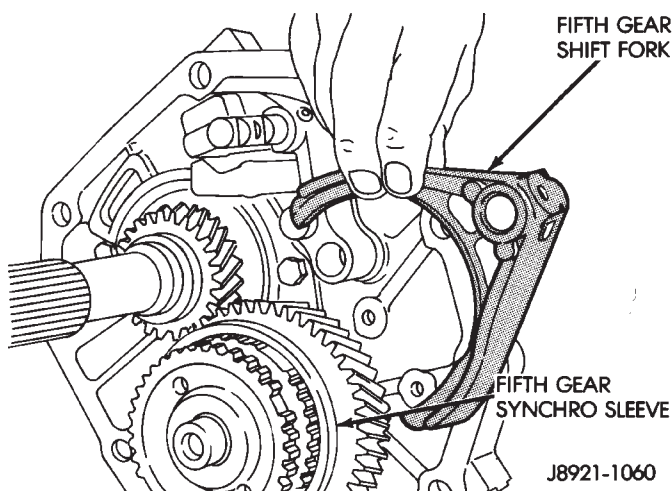

Fig. 102 Install Fifth Gear Shift Fork
(36) Move reverse shift rail forward as far as possible and install fifth gear shift fork onto synchronizer sleeve (Fig. 102).